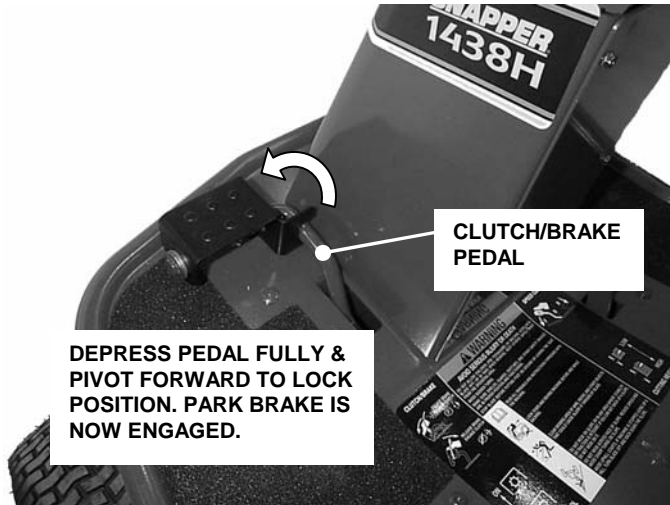

FIGURE 2.14
1. Engage park brake by depressing clutch/brake control pedal fully and pivot pedal forward to the locked position. Do not park machine on slopes. See Figure 2.14.